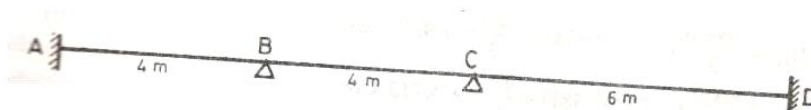

Figure-4
- 7 Analyze the continuous beam shown in Figure -4 by Slope Deflection Method. If the supports B and C sink by 8 mm and 10 mm respectively. Take  $I = 5 \times 10^7 \text{ mm}^4$  and  $E = 200 \text{ kN/mm}^2$ . 14 M C04 L4